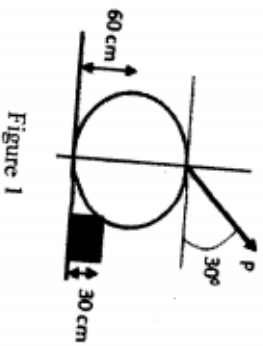

Figure 1
2. Find out magnitude of force P required to start the roller over the step as shown in figure 1. (5X10=50)